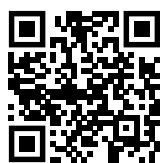

Fig. 173
- Open Liebherr SmartMonitoring Dashboard. (see Fig. 173)